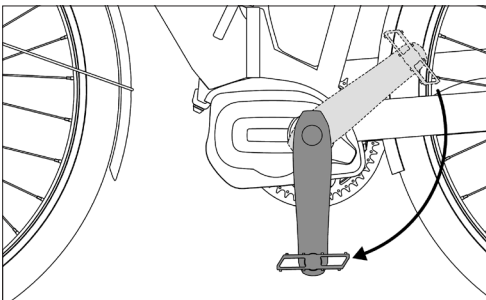

Fig. 29: Reposition non-drive side crank arm
2. In order to fold the frame completely, the crank arms must be positioned properly. Grasp the pedal and turn the crank arms counter-clockwise until the non-drive side crank arm is at its lowest point. It should be perpendicular to the ground with the pedal at the bottom (Fig. 29).